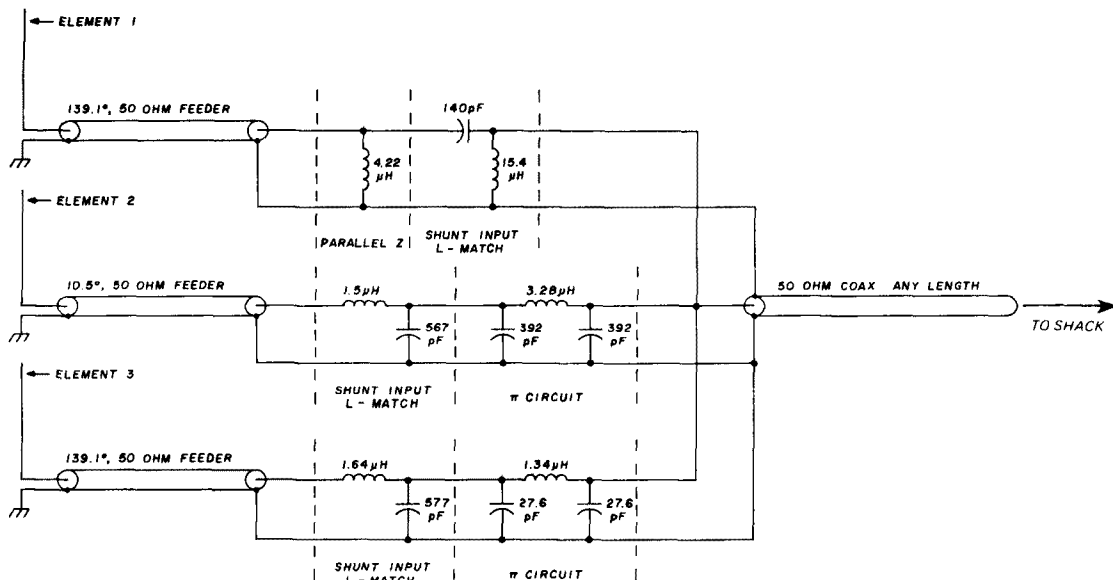

fig. 3. Matching network for a 3-element in-line array at a 3.8 MHz design frequency.
4. Cascaded circuits may each have a capacitor at their common connection points, which are then in parallel. For example, see fig. 3 showing a 567 pF and 392 pF capacitor at a common connection point. The two values may be added and a single capacitor placed at that junction. However, until the network has been tested, it is useful to keep the circuits independent for separate adjustment.
The resulting network is shown in **fig. 3**. Illustrated in this example is the application of the parallel circuit and the use of leading and lagging phase L-match circuits. Here, element 1 is used as the reference element of the feed network. A parallel impedance circuit is used to transform the impedance seen at the input end of the feeder to a pure resistance. This is then transformed to the pure resistance required for the chain with a shunt input L-match chosen to produce a leading phase change. The resulting input voltage then becomes the objective for the other two network chains.